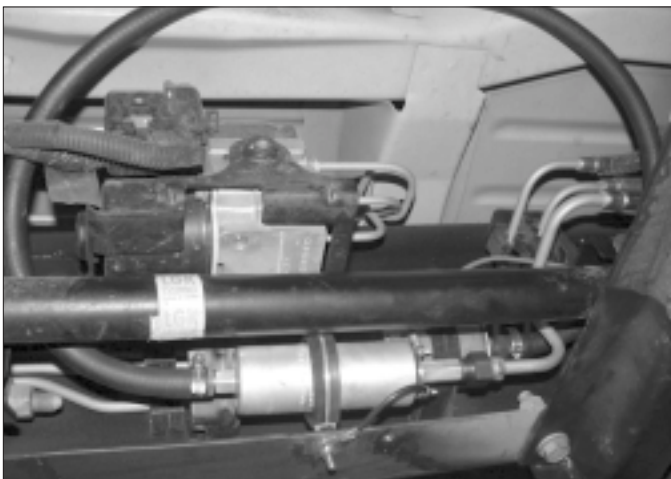

Fig. 11-b
- C** Feed the yellow wire from relay terminal #85 into the fuse box. Route the wire to the stock fuel pump relay and connect using the supplied fuse tap to terminal #86 on the relay. Bend the fuse tap as shown in *Fig. 11-d*.